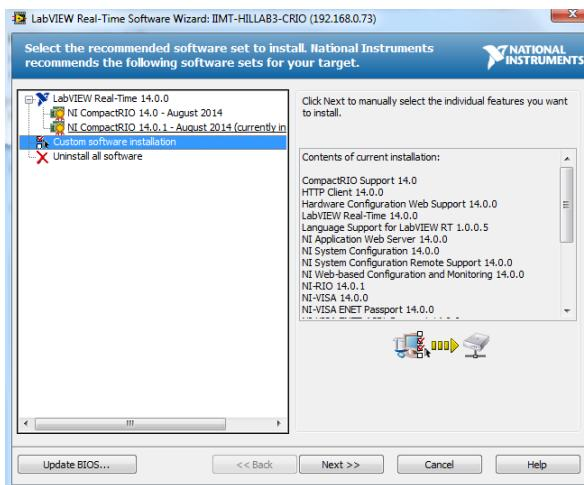

Figure 23: NI MAX - NI Veristand Engine installation 1
2. Now you choose Custom Software installation in the menu, see Figure 23